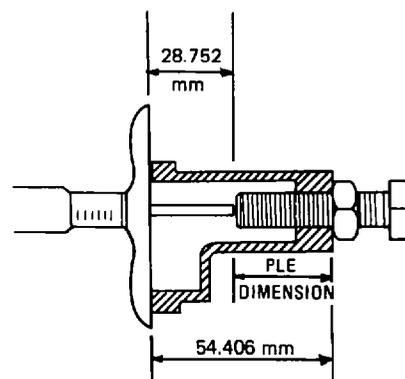

Fig. 120 — Determining "PLE" Dimension
4. To determine the PLE dimension, remove the gauge from the injection pump. Use a depth gauge to measure the distance from the gauge cap mounting flange to the end of the adjusting bolt. This dimension is then subtracted from the gauge cap length, the resulting figure being the PLE dimension. An example of obtaining this dimension is shown in fig. 120.